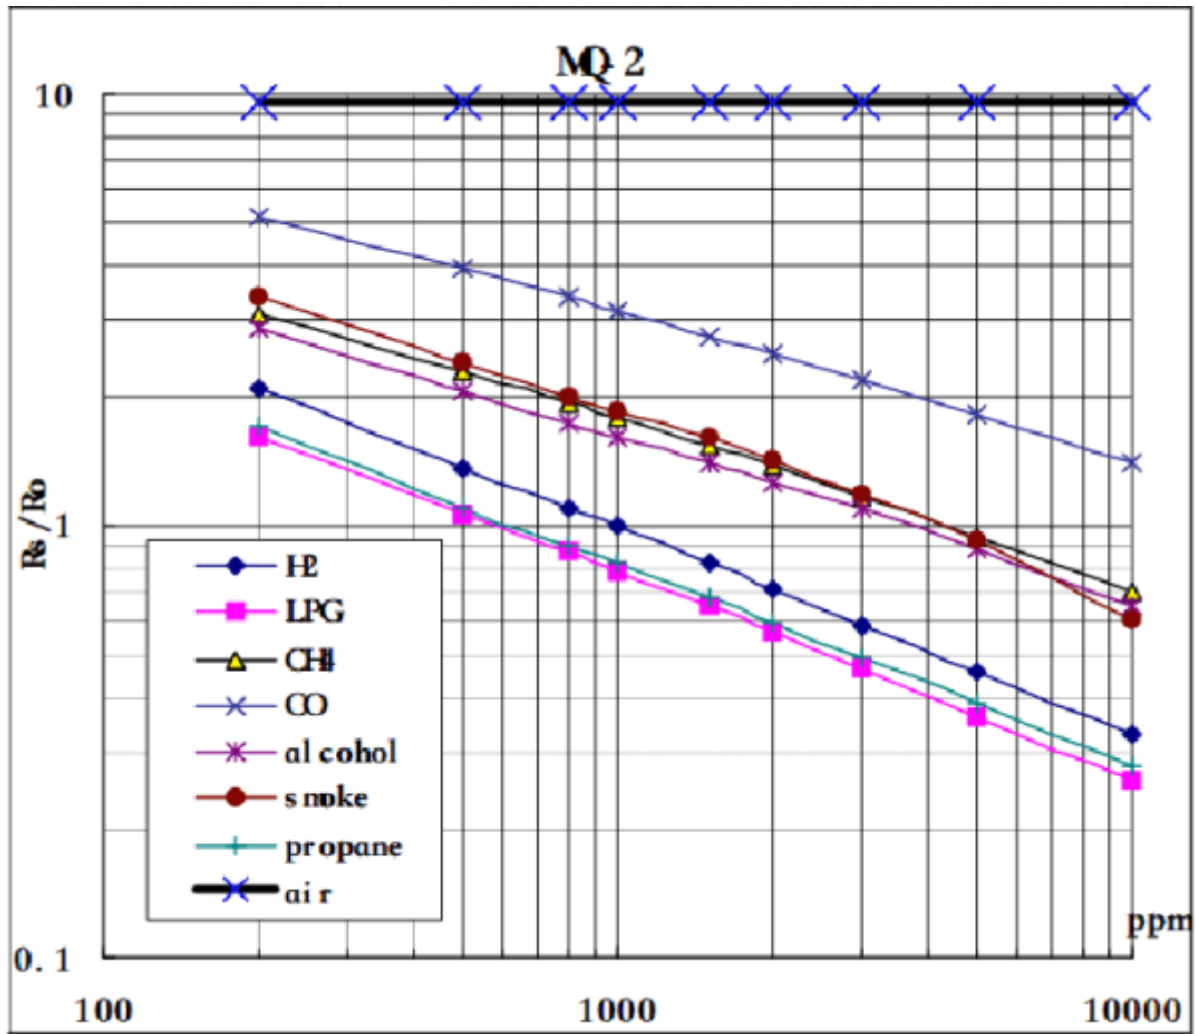

Figure 2.5 MQ2 Sensitivity characteristics. Source: <https://www.mouser.com/datasheet/2/321/605-00008-MQ-2-Datasheet-370464.pdf> }
The MQ-2 sensor functions as a voltage divider. The analog voltage output varies accordingly with the concentration of combustible gasses and its interaction with the oxygen, thus yielding a higher voltage proportional to the quantity of the present gas. The sensor cannot determine which gas is present, however the interaction with any of the possible measurable gasses creates a distinct pattern that has been provided by the manufacturers, shown in Figure 2.5. By creating a code that follows the guidelines set by the manufacturer design we can then measure with a small margin of error, the concentration of distinct types of gasses in the air simply by analyzing the resistance ratio of the sensor (RS/R0). ²⁾
- Specified in Figure 2.5 and in the specifications of the manufacturer, the sensor can only read gas concentrations between 200 and 10000ppm.